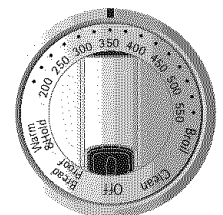

Figure 3
3. Turn the temperature control knob to 350 (Figure 3). The temperature will appear briefly in the oven control display. The display will beep indicating that the temperature is set. Then the temperature will disappear from the display.